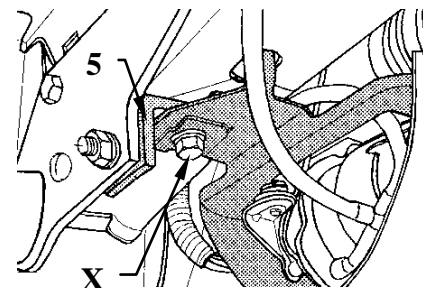

Fig. 2
2. Fix loosely right angle bar (pos. 5) to the right side of the chassis through hole (pos. A) using bolt M10x35mm (pos. 7).
- For models without level adjustment:** Fix loosely left angle bar (pos. 5) to the left side of the chassis through hole (pos. A) using bolt M10x35mm (pos. 7).
- For models with level adjustment:** Remove bolt X shown in figure 2, place angle bar (pos. 5) between just removed plate and the chassis. Fix loosely using bolt M10x35mm.